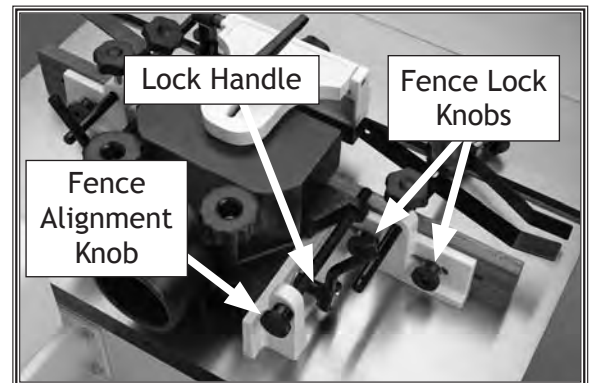

Figure 13. Fence controls.
Fence Positioning (Figure 13)
1. Loosen the infeed fence lock handle shown in **Figure 13**.